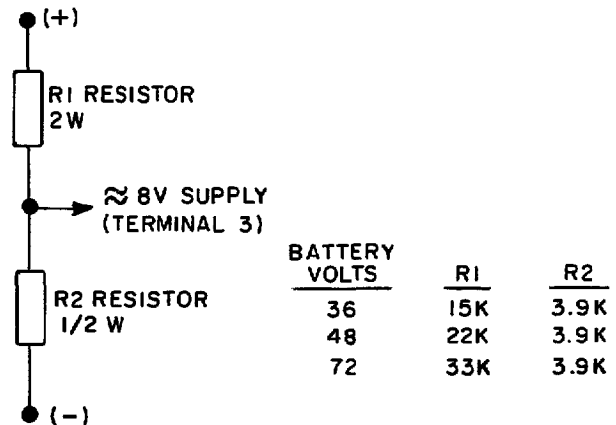

Fig. 3.
- (1) Following standard procedures, set up the oscillating card in the SCR control panel with the exception of plugging.
- (2) Make an eight-volt power supply as shown in Fig. 3.
- (3) Connect an additional separate wire from terminal 3 of the auxiliary plugging control card to the eight-volt supply.
- (4) Stall the truck, and by varying the truck accelerator, set the motor volts at battery volts divided by 10. Hold the accelerator at this position.